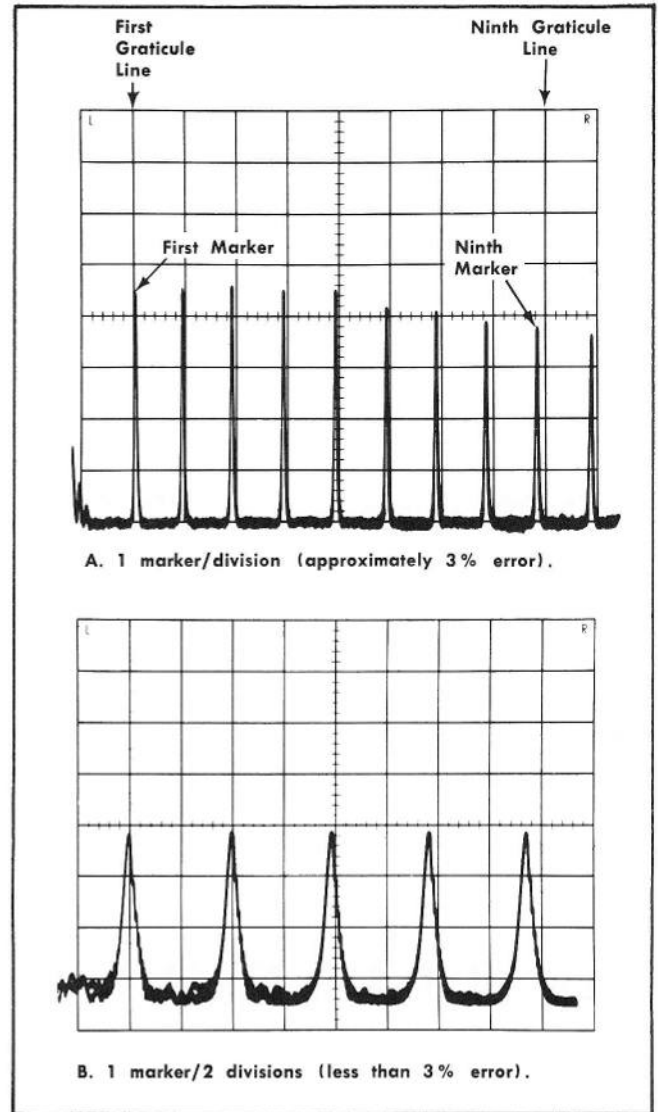

Fig. 5-3. Typical spectrum display for checking dispersion accuracies.
Dispersion accuracy is checked over the center 8 divisions of the graticule. Align the first time marker to the 1st graticule line and read the error as the displacement between the 9th graticule line and the appropriate marker. (See Fig. 5-3.) Dispersion window upper limit must not exceed 1 MHz for the 10 kHz to 990 kHz center frequency range, or 10 kHz for the 10 Hz to 9900 Hz frequency range.
c. Align the 1st time marker to the 1st graticule line, using the Horizontal Position control or the VARIABLE CENTER FREQUENCY control. Check dispersion accuracy for the 10 kHz to 990 kHz center frequency range as per Table 5.3. (See Fig. 5-3.) Adjust the RESOLUTION selector to optimize the display as the DISPERSION is decreased.